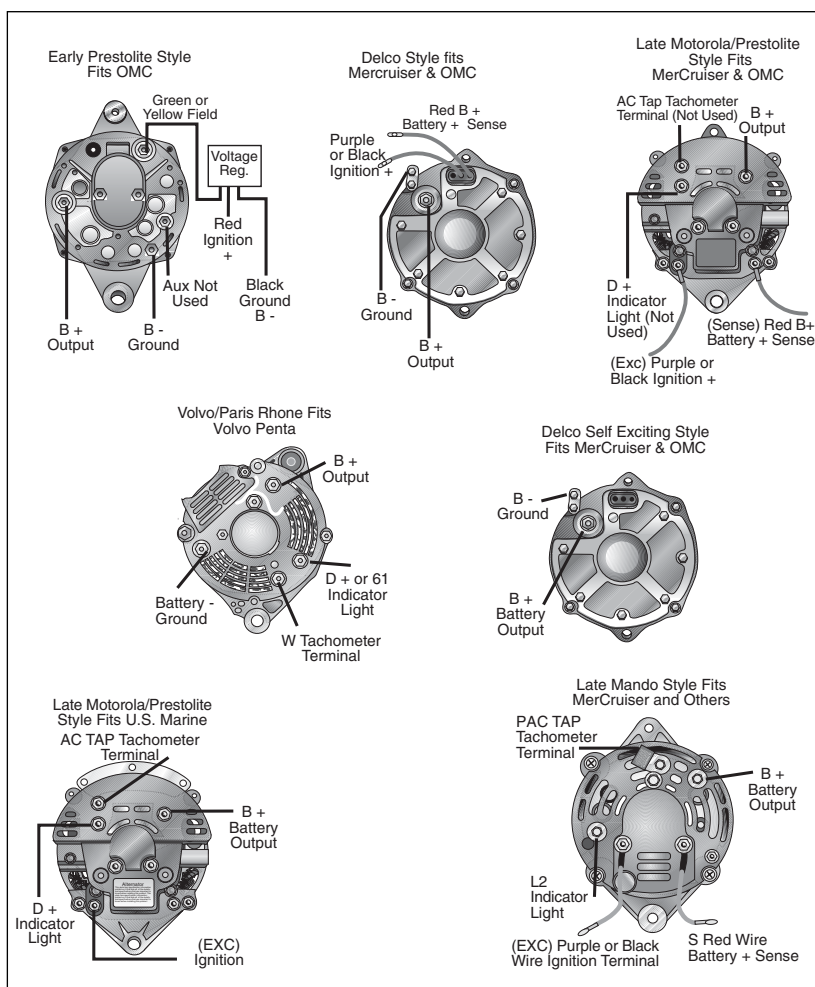

Fig. 6-1. Seven common alternator backs, showing wiring connections.
the back of the alternator to ensure that the wires go back where they should. Incorrectly reconnecting these wires will render the new alternator inoperative or burn it out. In the seven diagrams on page 88 in figure 6-1, alternators used by MerCruiser, OMC, Volvo Penta, and US Marine are shown with the terminals identified. You'll need your engine's service manual to match the wiring harness to these diagrams.
scribed here, you'll need to make one more check to ensure that the alternator is getting field current when the boat's ignition key is turned on. Use the diagrams in figure 6-1 on page 88 to identify the terminal on the back of the alternator marked by either an F, EXC, or IGN. This terminal, which is supplied ignition voltage (hence the possible "IGN" marking) is where the excitation (supply of voltage) is sent through to the field (F) windings wound around the alternator's rotor.
If you have one of the LED testers shown in figure 6-9, alternator testing is a one-step procedure. The tester has red and black leads and probes just like your multimeter. Attach the red probe to the B+ terminal at the back of the alternator and the black probe to a nearby ground (one of the alternator mounting bolts will do), and start the engine. Observe the LEDs on the meter. Any lights flashing or constantly lit indicate a problem with either the alternator or the voltage regulator (assuming the alternator is getting excitation voltage as described earlier). Follow the instructions printed on the tester to determine what course of action is required. Figure 6-9 shows the LED tester connected and ready to check a charging system. If you're not sure which terminal is B+ on your alternator, refer to figure 6-1.